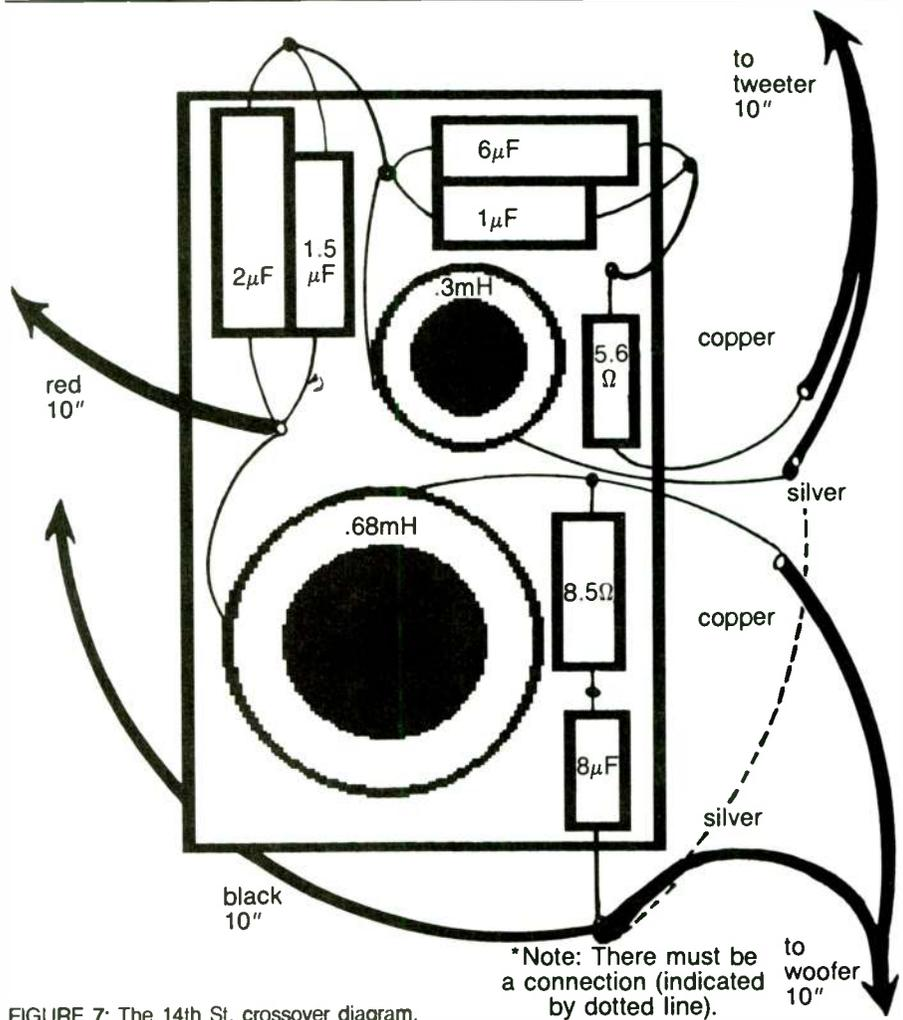

FIGURE 7: The 14th St. crossover diagram.
**TO BUILD A SPEAKER.** On the first day of construction the students are given a Masonite board, inductors, capacitors, resistors, and a gob of "Liquid Nails" adhesive caulk (affectionately called "the schmutz") to stick it all on with. As an aid in transferring the schematic to a real-life visualization, they are given the 14th St. crossover diagram (Fig. 7).